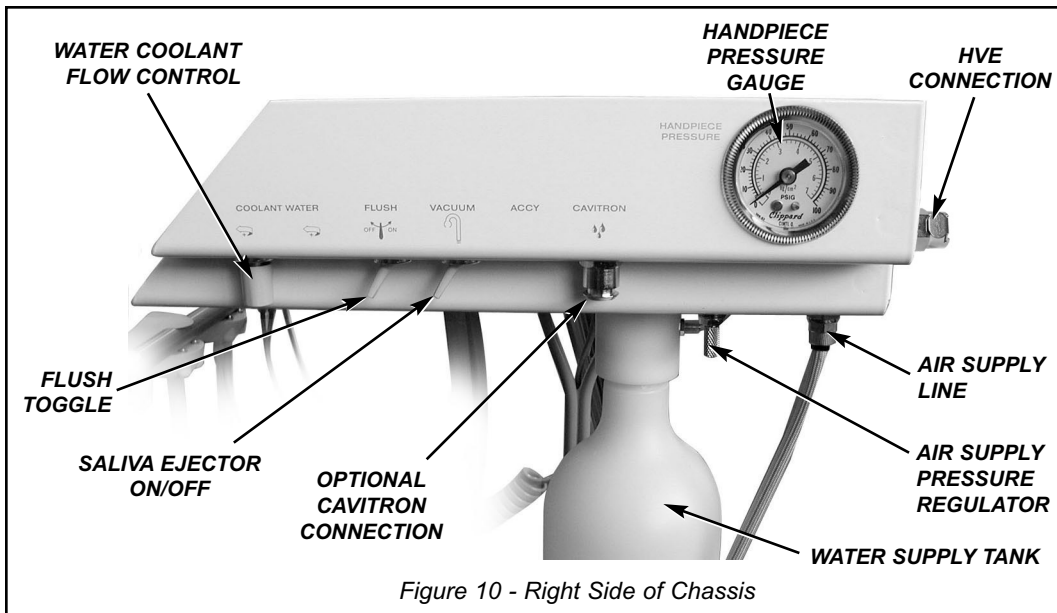

Figure 10 - Right Side of Chassis
- 5. PRESSURE GAUGE** (Fig. 10) - The pressure gauge on the right panel gives you a visual indication of the handpiece drive pressure.
- 6. WATER COOLANT FLOW CONTROL** (Fig. 10) - Adjusts the flow of water coolant to the handpiece control.
- 7. FLUSH TOGGLE** (Fig. 10) - The flush toggle located on the right side of the chassis allows you to quickly and completely flush your handpieces, washing away contaminants which may have accumulated in the handpiece and tubing. You should flush the handpieces for about 5 seconds after every patient, and about 20 seconds at the beginning of each day to reduce overnight bacterial accumulation which may have occurred.